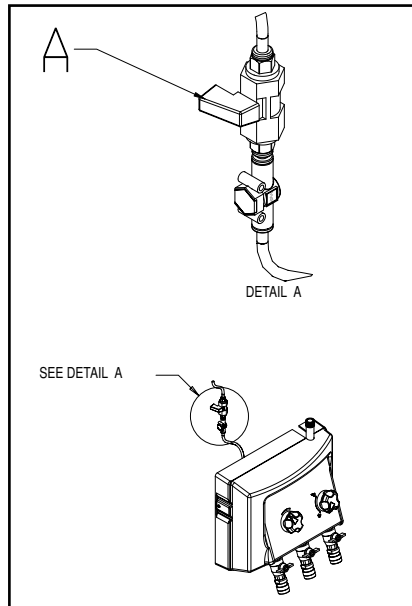

Fig. 7 0627135
1. Check that water- and air supplies for the system are open. (see A, Fig.7, air). Activate central chemical supply if present.
3. Close the air supply(A, Fig. 7)